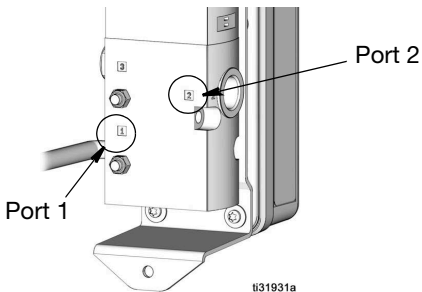

FIG. 24
3. Disconnect the air supply line from the port numbered 1 on the solenoid valve (14) and the pump air line from the port numbered 2 (FIG. 24).